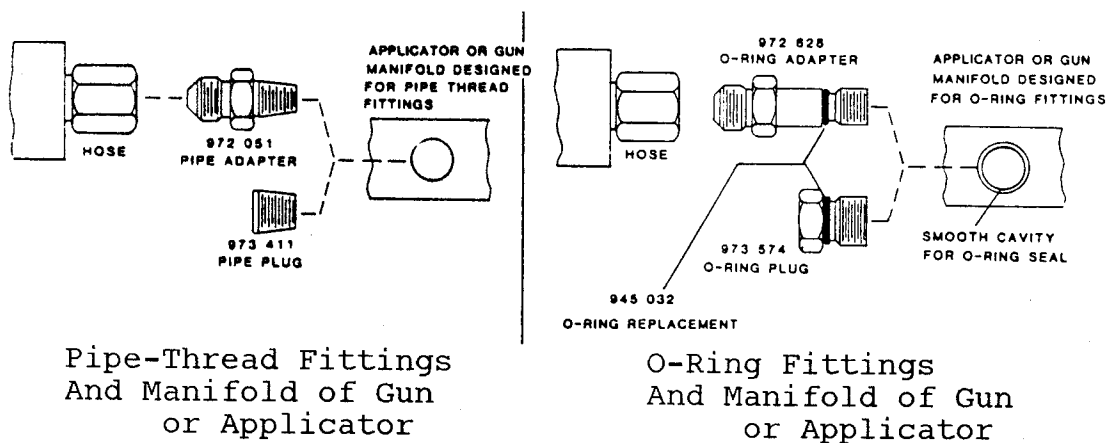

Figure 1 - Diagram of O-Ring and Pipe-Thread Fittings for H20 Noncirculating Guns, H200 Automatic Guns, and Series 2000 Applicators
1. Identification of Fittings Required: To determine which type of fittings should be used with any given gun or applicator, first look at the fluid ports in the manifold. The ports designed for the o-ring fittings will have a smooth machined cavity on the face of the manifold around the female threads whereas the ports designed for the pipe-thread fittings will have only female pipe threads. See Figure 1 for an illustration of the difference.
2. Selection of Correct Parts: Use Figure 1 to select the correct part.